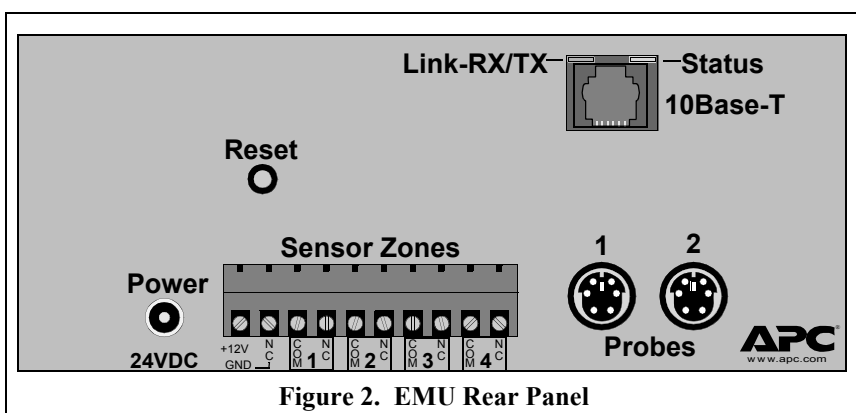

Figure 2. EMU Rear Panel
1. Connect a twisted pair of 22 AWG wire to Dry Contact Pins #3 and #4 on the terminal block connector. (see Figure 2). There is no polarity requirement (see table below).